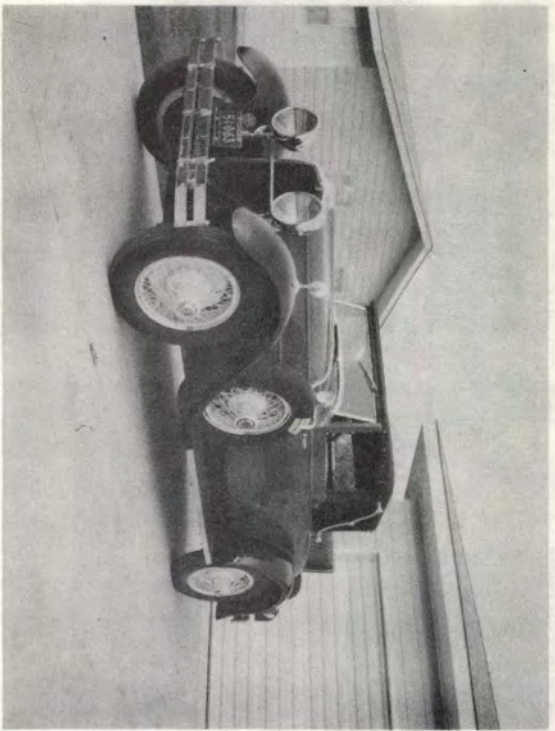

Fig. 1
On pages 11 and 12 are pictures we have received from members. Each picture is labeled with Fig. 1, 2, etc. The owners are listed below to correspond with each picture.
- Fig. 1 Henry Hopkins 1928 Convertible Coupe